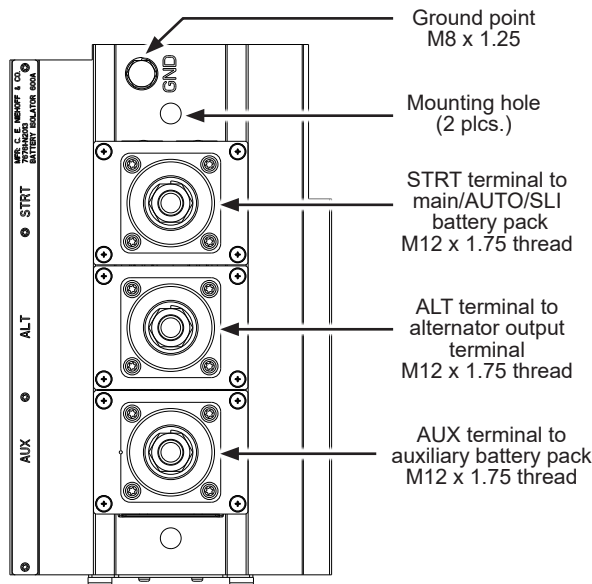
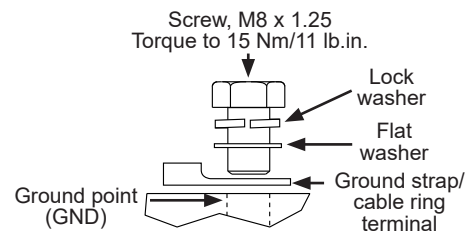

Figure 1: N2013 Installation/Connections
Figure 2: GND Terminal Stacking Sequence
Follow these instructions to ensure proper installation of N2013 Battery Isolator. See Figure 1 for mounting/ground points and input/output terminal locations. See Figures 2 and 3 for input/output terminal hardware stacking sequences.
2. Connect suitable ground strap/cable from N2013 isolator ground point (GND) to vehicle chassis or B- circuit (if isolated ground system) as required by application. See Figure 2 for hardware stacking sequence. Torque to 15 Nm/11 lb. ft.